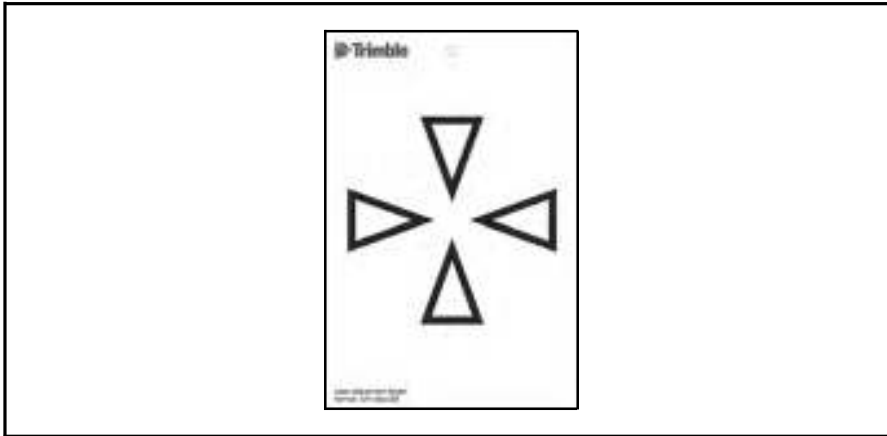

Figure 4.30 Adjustment target for DR 300+
4. If the red laser spot lies outside the cross-hairs, adjust the direction of the beam until it matches the cross-hairs. figure 4.30